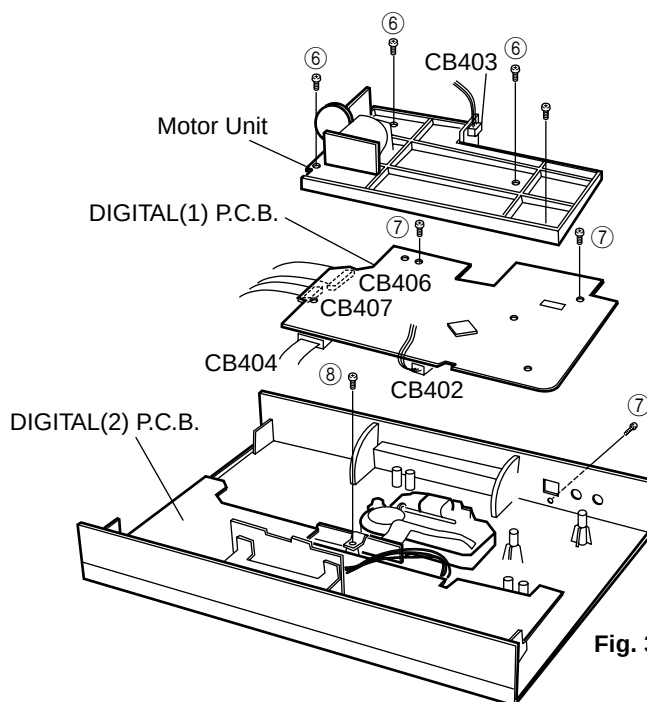

Fig. 3
- Remove 4 screws (⑥) and then remove the Motor Unit. (Fig. 3)
- Remove 3 screws (⑦) and then remove the DIGITAL P.C.B. (1). (Fig. 3)
- Remove 1 screw (⑧). The CD Drive Unit can then be removed together with the DIGITAL P.C.B. (4). (Fig. 3)